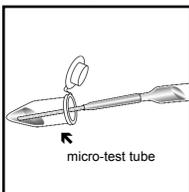

Figure 3
3. Fill the micro-test tube approximately halfway with the sample to be tested (fig. 3).